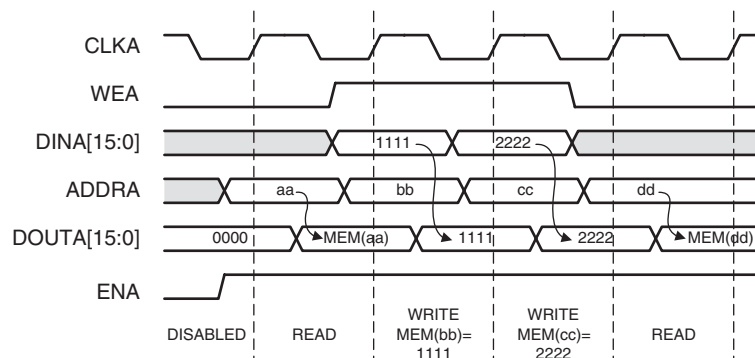

Figure 8: Write First Mode Example
- **Write First Mode:** In WRITE\_FIRST mode, the input data is simultaneously written into memory and driven on the data output, as shown in Figure 8. This transparent mode offers the flexibility of using the data output bus during a write operation on the same port.